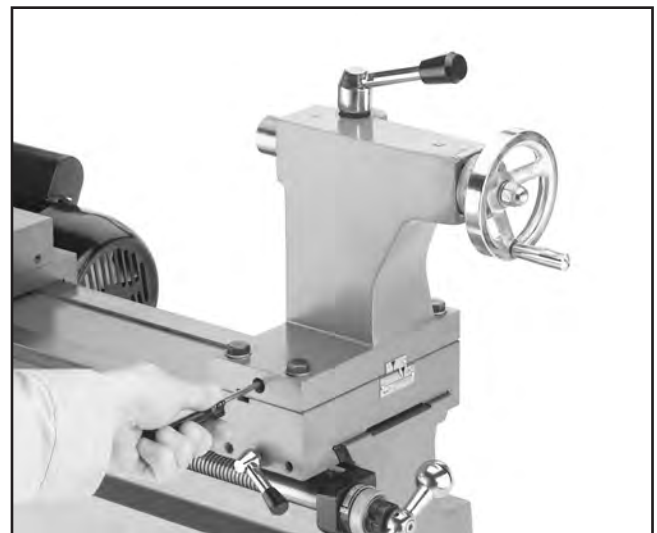

Figure 25. Tailstock offset adjustment screw.
7. Loosen the four tailstock mounting bolts. Adjust the tailstock offset by half the amount of the taper by turning the adjustment set screws (**Figure 25**). Turn another .010" off of the stock and check for a taper. Repeat as necessary until the desired amount of accuracy is achieved.